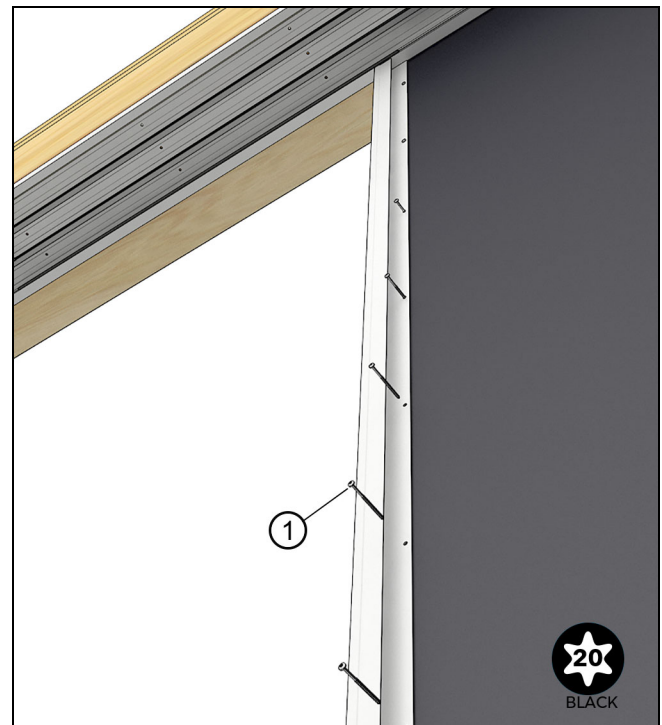

Figure 67
5. From the interior, attach the interlock to the blackout panel and framing with #10 x 3" (64) T-20 Torx installation screws provided. Figure 67.